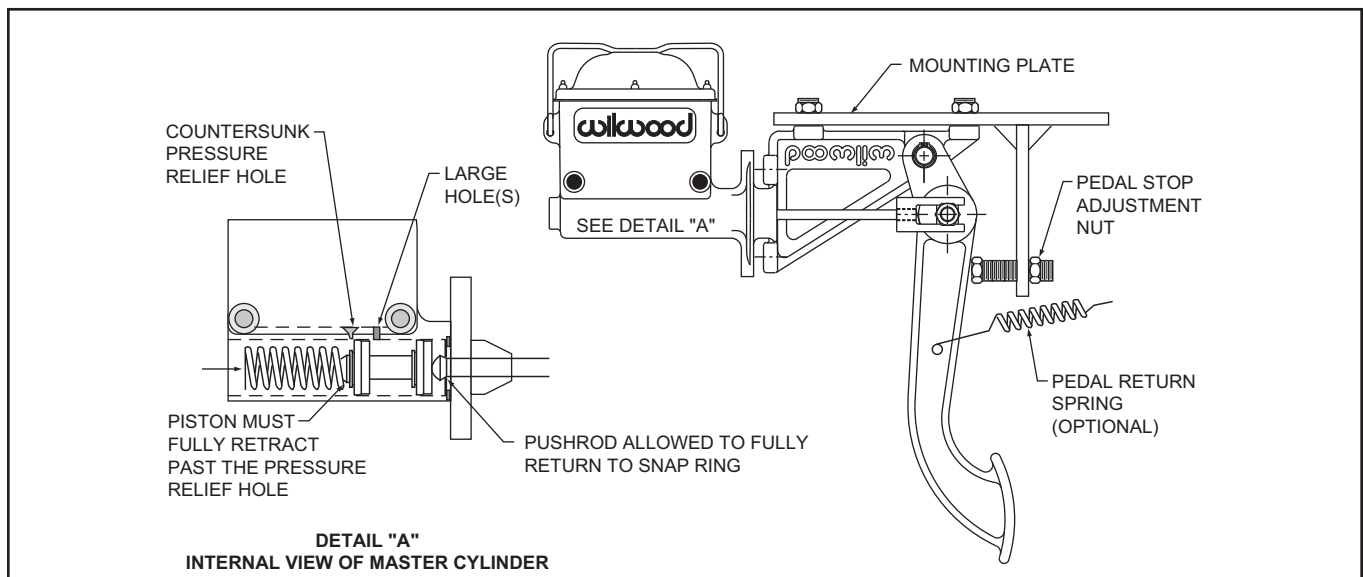

Figure 1. Master cylinder pedal stop and return hole position
1. The brake pedal should have an adjustable return stop on it when a strong pedal return spring is used. This prevents the master cylinder from excessively banging the snap ring stop inside the master cylinder bore (visible under the rubber boot). Adjust the stop so the pedal stops returning at the point when the master cylinder piston retracts against the snap ring, Figure 1.
2. The master cylinder piston must fully retract. If the master cylinder piston is not allowed to fully retract when the brake pedal is not applied, the primary inside seal will not return past the small pressure relief hole (visible within the master cylinder reservoir on some master cylinders). This can cause excessive residual line pressure and contribute to brake drag and an overheating condition, see Figure 1, Detail "A".